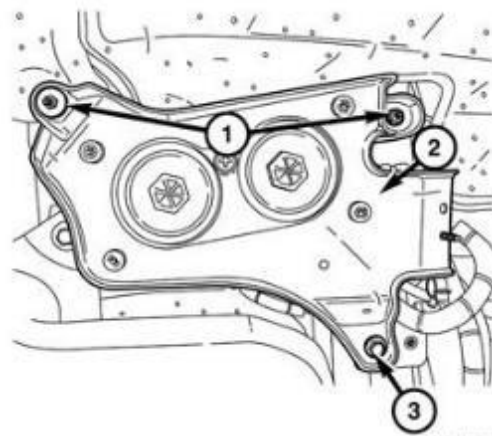

Figure 53 – Fuel Filter/Water Separator
98. Remove the nuts (1), bolt (3), and the fuel filter/water separator assembly (2) (Figure 53).
109. Install the fuel filter/water separator assembly (2) to the vehicle. Tighten the two nuts (1), and one bolt (3) to 20 N·m (15 ft. lbs.) (Figure 53).